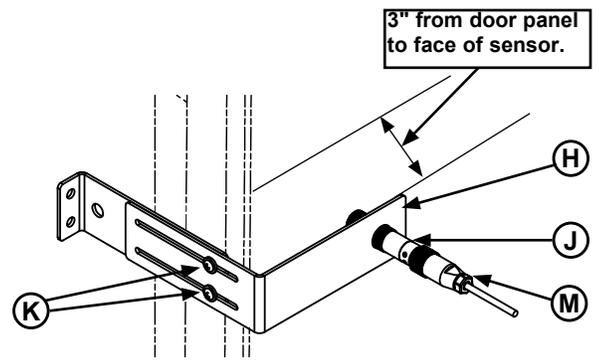

Figure 37
5. Mount the door open sensor (**J**) into the bracket (**H**), using the included plastic nuts. See **Figure 37**.